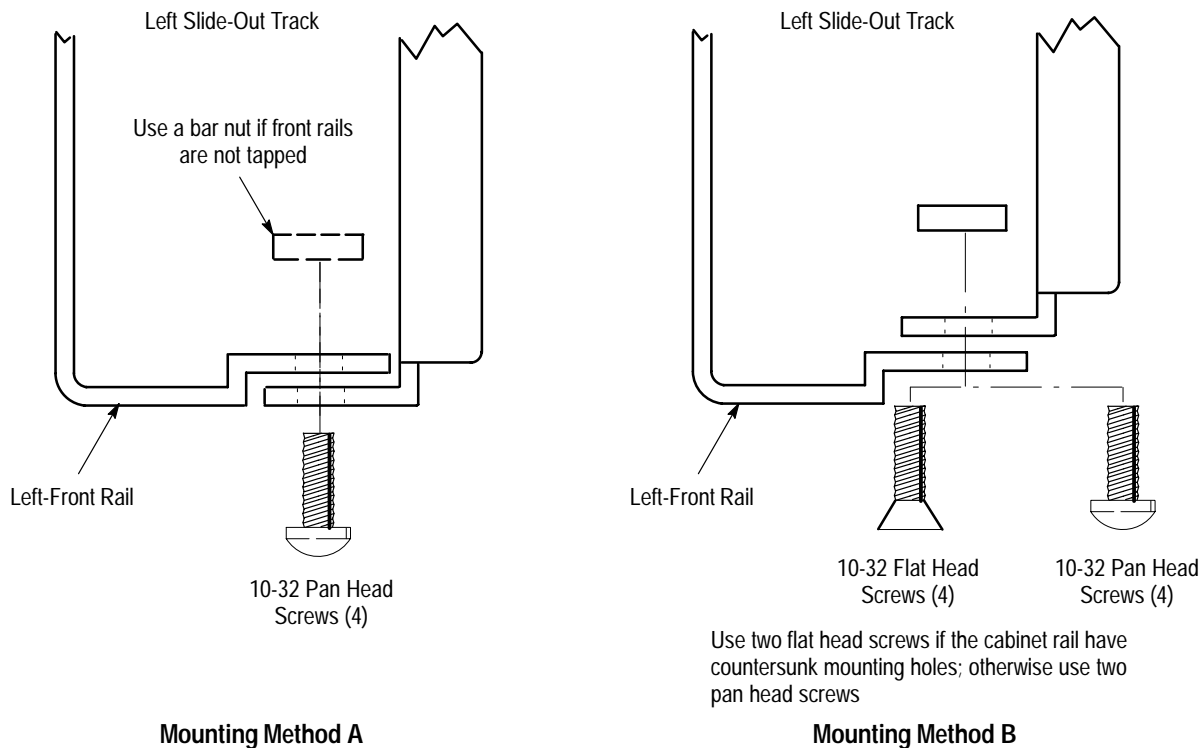

Figure 12: Installation of Slide-out Track Assemblies in Rack (Top View)
- To mount the slide-out tracks with their front and rear flanges outside of the front and rear rails, use the method A shown in Figure 12 when doing substep c. Add a bar nut to the installation only if the rails have untapped holes.
- To mount with front and rear flanges inside of rails, use the mounting method B outlined in Figure 12. This mounting method assumes untapped holes.